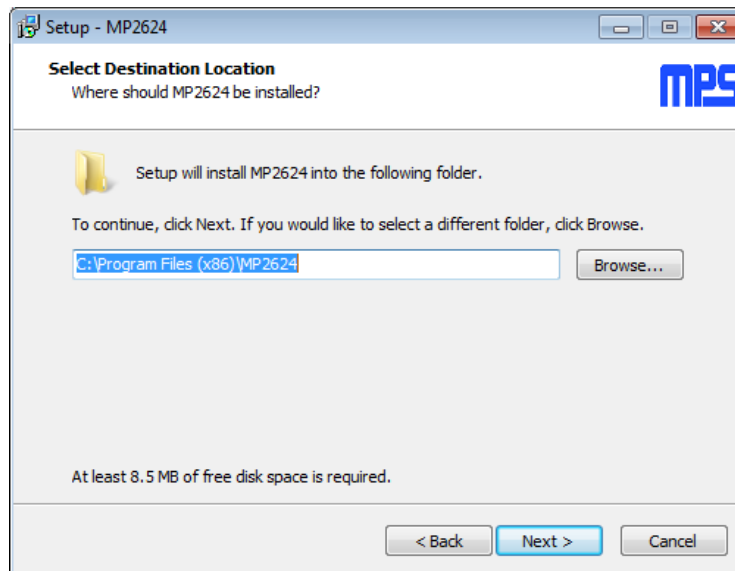

Figure 4: MPS I²C GUI Set-Up Guide
2. Double click the .EXE file and open the software. (see Figure 4).